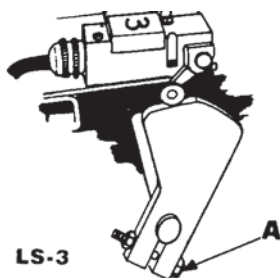

Figure 100 - Charge Sensor Cam
1. Adjust the cam with the feed sensor paddles down (see Figure 100).
2. Loosen clamp bolt (A) and rotate cam forward until the switch clicks to operate.
4. Tighten clamp bolt (A).